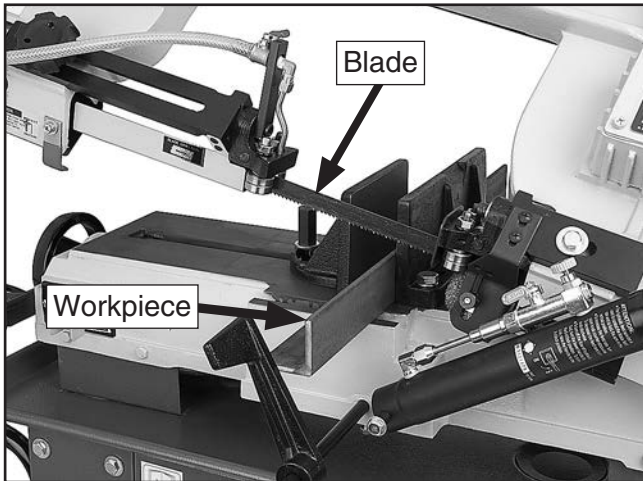

Figure 30. Correct blade starting position.
- Let blade reach full speed before engaging workpiece (see **Figure 30**). Never start a cut with blade in contact with workpiece.